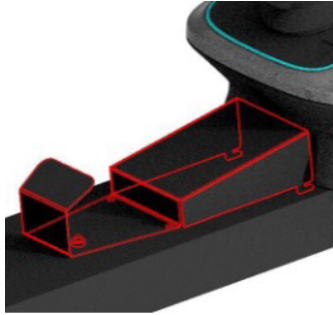

Figure A -13 Thread hook and thread guard installation
4. Insert the hanger hook and guard cover into the mounting position and push them up, and then lock them from the front with two M4\*12 pattern composite screws (Torque: 1.4~1.6 N.M) with column core head, as shown in Figure A-13.